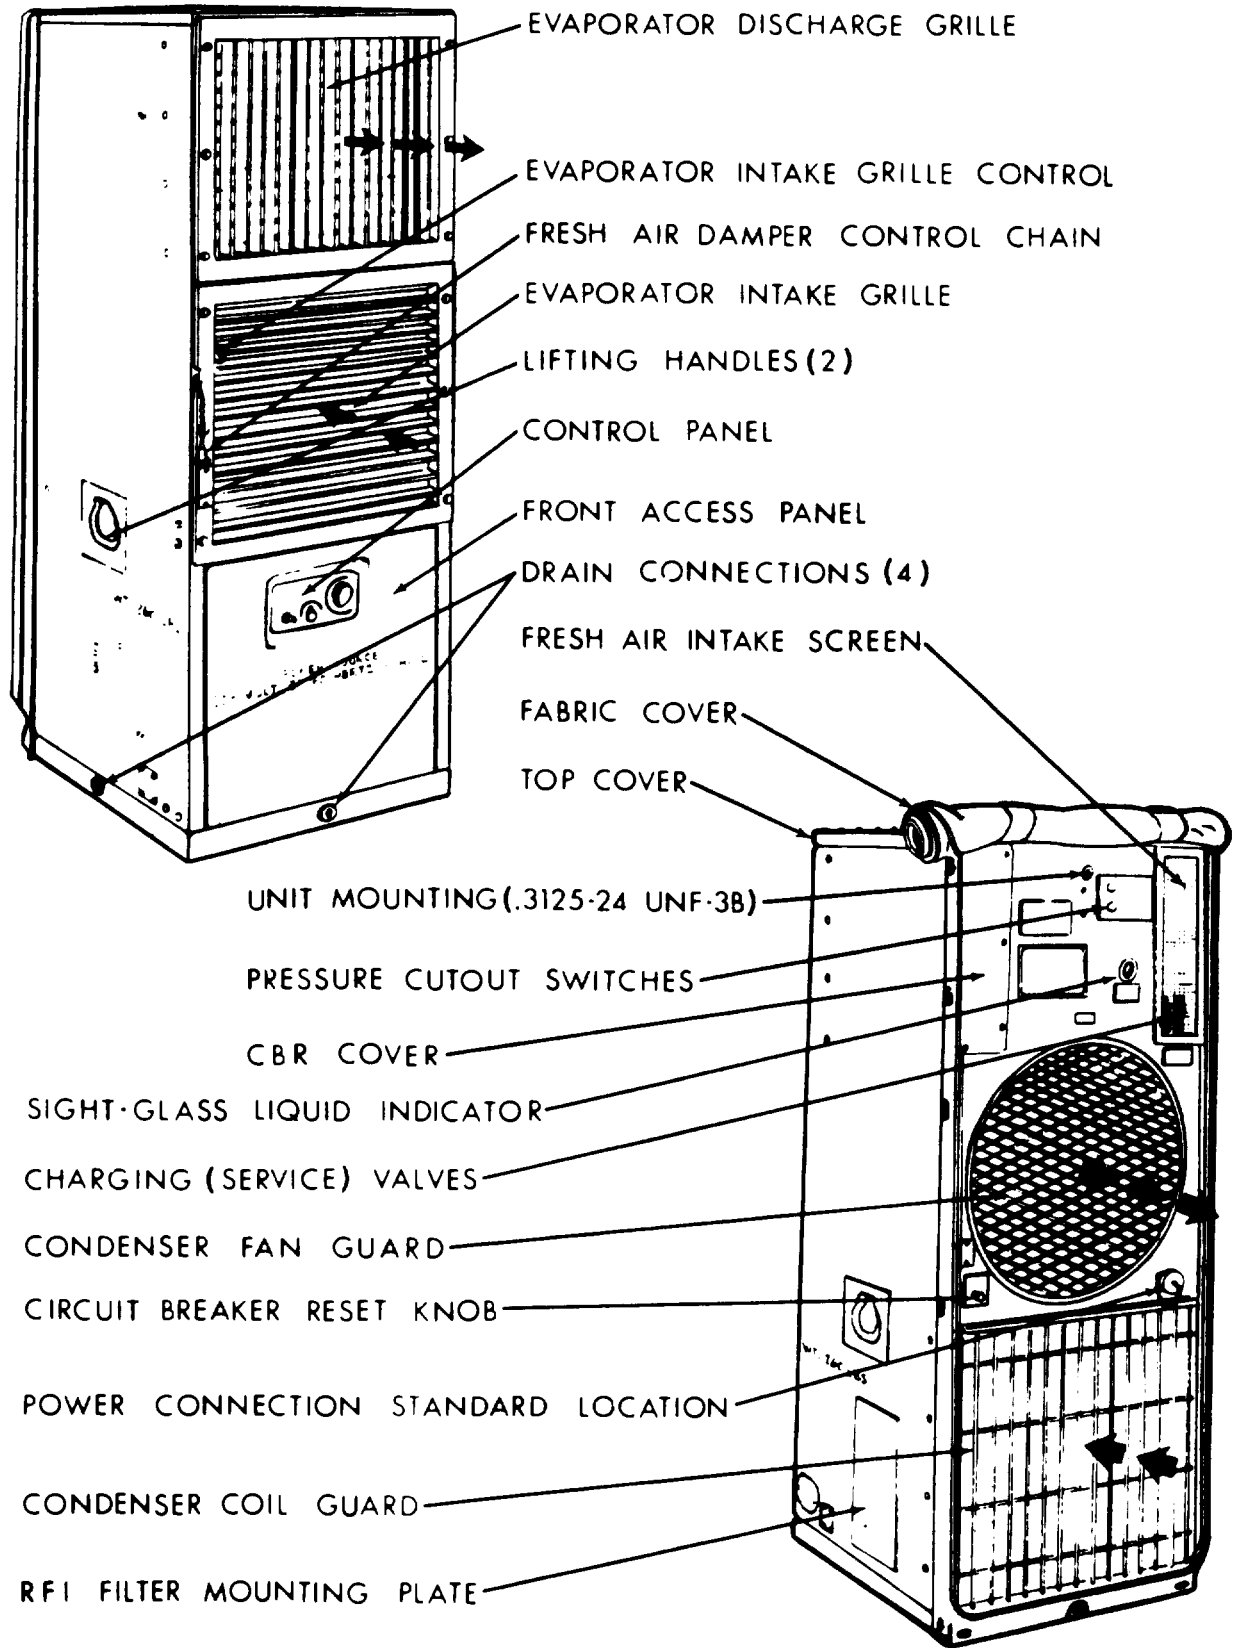

Figure 1-1. Air Conditioner
b. The purpose of the air conditioner is to circulate, cool or heat filtered air in a room or other enclosure in which it is installed (see figure 1-1). The unit provides 18,000 Btu/hr. of cooling or 12,000 Btu/hr. of heating capacity. A two-speed fan can be set for either low-or high-speed operation, using a manually operated switch on the control panel; however, an automatic, pressure-operated switch may override the manual switch when it is set for low speed. This feature provides automatic control of head pressure, and increases cooling efficiency.